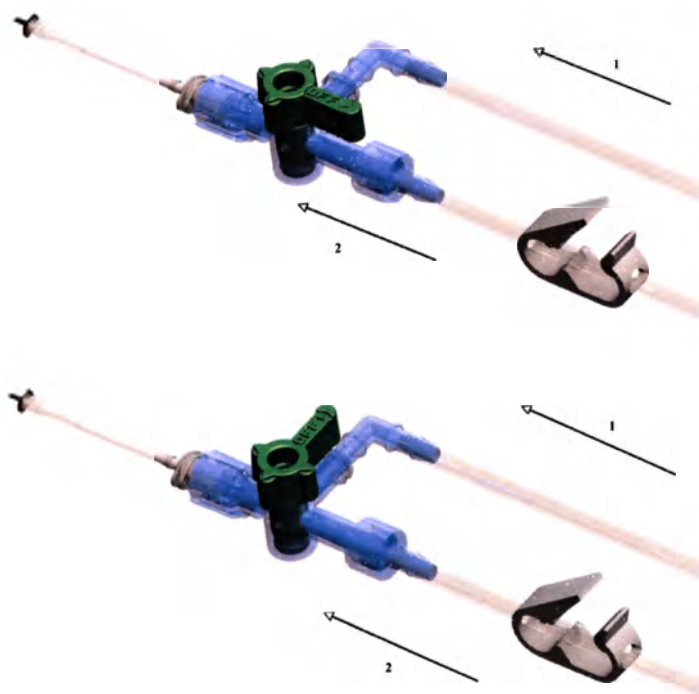

Figure 4.15. The 2-way stopcock control of Fluid/Air Exchange.
4. Turn the valve of the stopcock to stop the flow of irrigating solution and start the flow of air as shown in Figure 4.15 (top). (Scrub nurse)